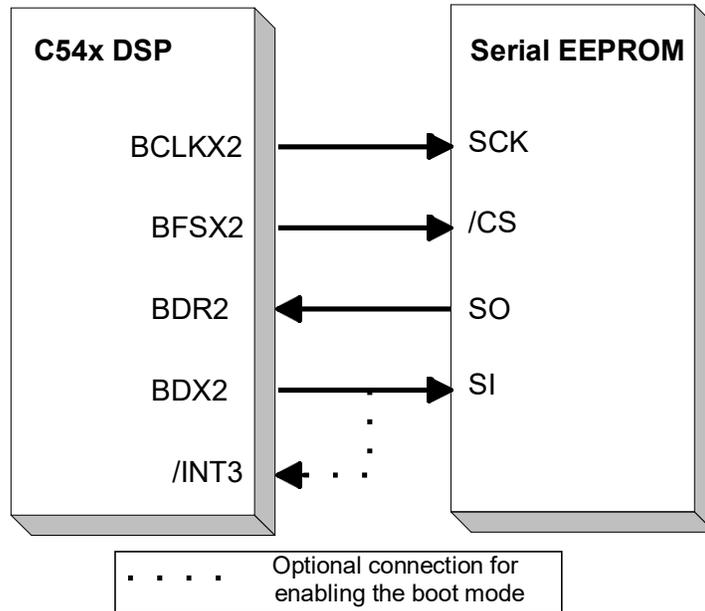

Figure 4. McBSP2 to EEPROM Interface for Serial EEPROM Boot Mode
- The BDX2 pin is tied to the INT3 input pin as shown in Figure 4, or
The serial EEPROM boot mode is intended for bootloading the DSP from an SPI based serial EEPROM. This mode configures McBSP2 in the clock-stop mode, with internal clocks and frames. The McBSP is then used to sequentially access the serial EEPROM. The EEPROM must have a four-wire SPI slave type interface with a 16-bit address. The interface between the McBSP and EEPROM is shown in Figure 4 below.